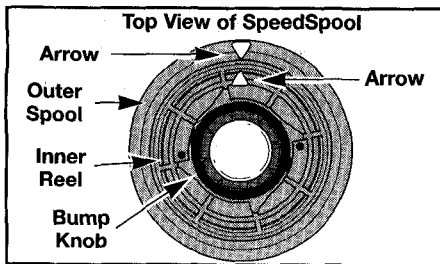

Fig. 18
1. Line up the arrow on the inner reel with the arrow on the outer spool (Fig. 18).